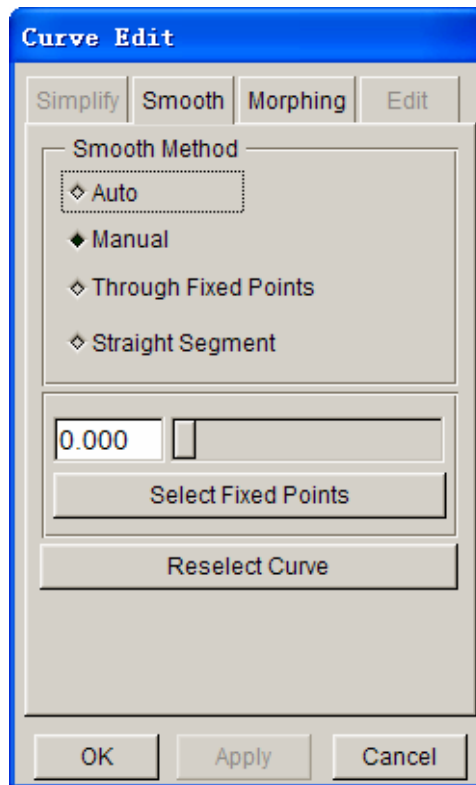

Figure 6.1.40 Curve Edit dialog box
2. After two points are selected, the CURVE EDIT dialog box as illustrated in Figure 6.1.40 is displayed. There are several options to allow the user to morph and smooth the boundary line.